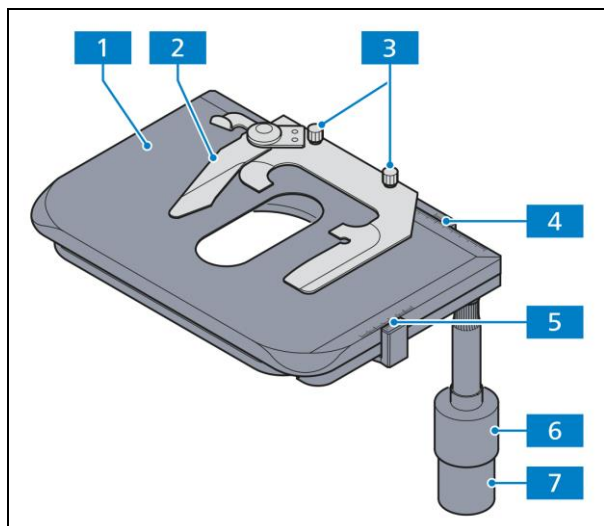

Fig. 2-12 Rackless stage 75x30 R with specimen holder
- Rackless mechanical stage (Fig. 2-12/1) for holding and positioning specimens with a specimen holder.
- Specimen holder (Fig. 2-12/2) for single-handed operation (replaceable after loosening the two knurled screws, Fig. 2-12/3).
- Coaxial knurled knobs for X (Fig. 2-12/7) and Y (Fig. 2-12/6) adjustment on the right-hand side (height and friction adjustable with dedicated tool).
- Vernier scale for display of the adjustment range in X (Fig. 2-12/4) and Y (Fig. 2-12/5) direction.